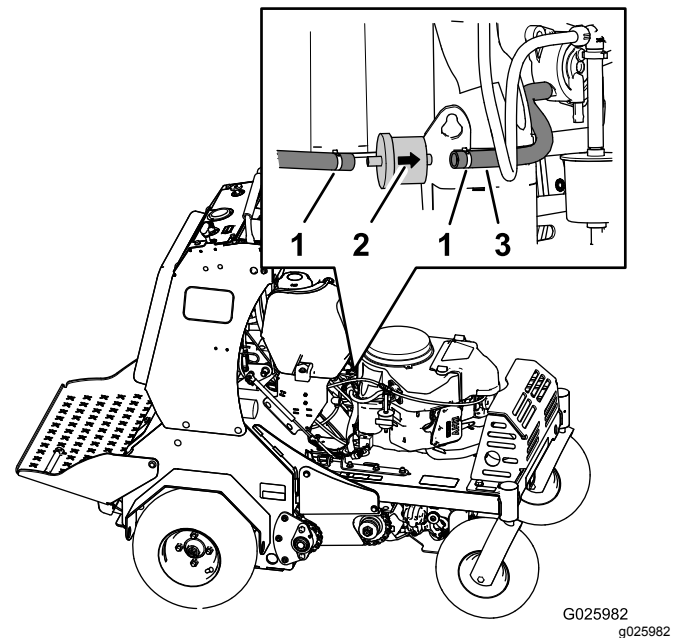

Figure 46
3. Squeeze the ends of the hose clamps together and slide them away from the filter (Figure 46).
4. Remove the filter from the fuel hoses (Figure 46).
5. Install a new filter with the flow-direction arrow aligned as illustrated in Figure 46.
6. Align the hose clamps over the hose and the fuel-filter fittings (Figure 46).